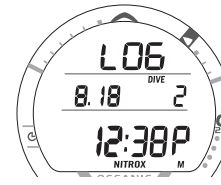

Fig. 99 - LOG PREVIEW
- Press and release the A button 2 times (< 2 seconds each) while viewing the NORM SURF MAIN display to access the LOG Preview screen (Fig. 99).